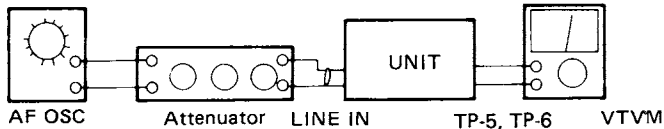

Fig. 11
- 5) Connect the test equipment as shown in Fig. 11.